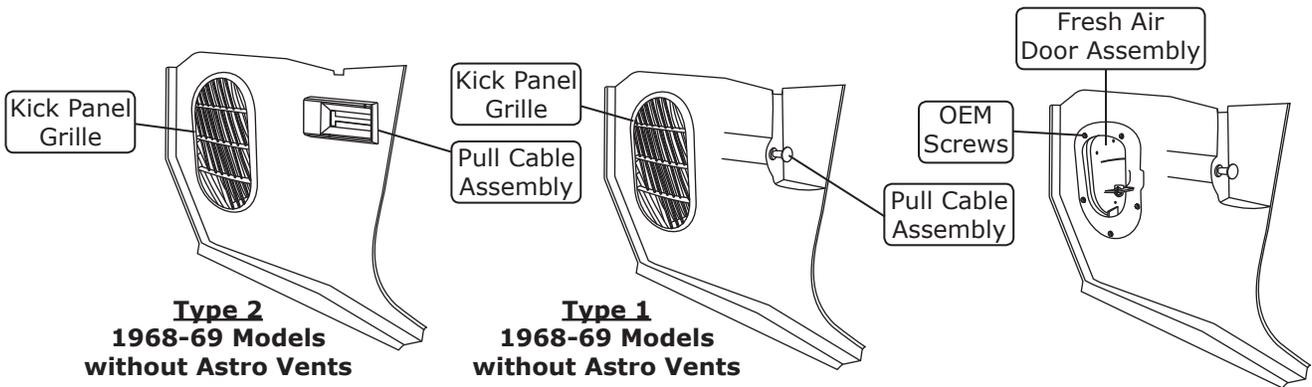

Figure 4
10. Remove the passenger side kick panel/fresh air door assembly as shown in Figure 4, Page 8.
1. Remove the kick panel grille (discard). Remove the kick panel by removing (5) OEM screws from the fresh air door assembly. Disconnect and discard the pull cable assemblies from the kick panel (See Figure 4, below).